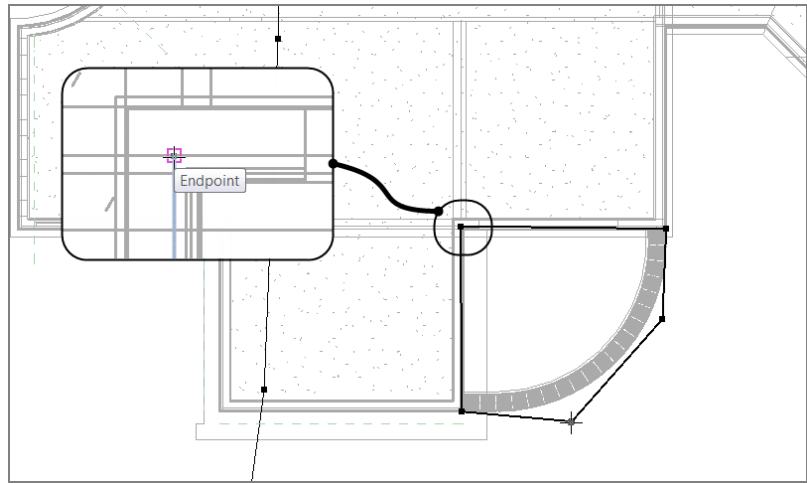

FIGURE 18.6: Adding the 0 elevation points
3. Zoom in on the west wing area where the slanted curtain wall resides, as shown in Figure 18.6.
8. Pick five points (see Figure 18.6).